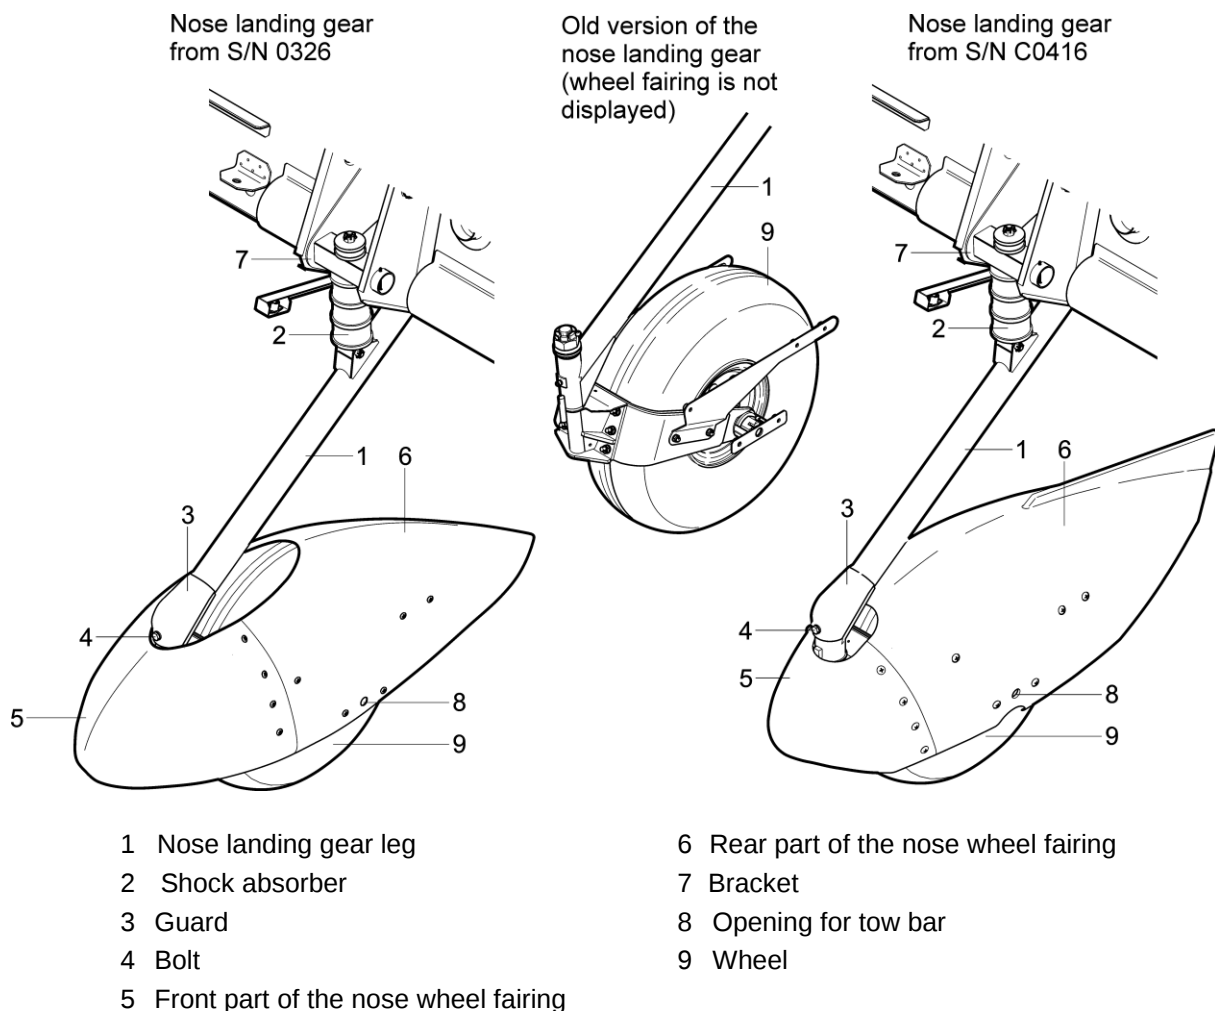
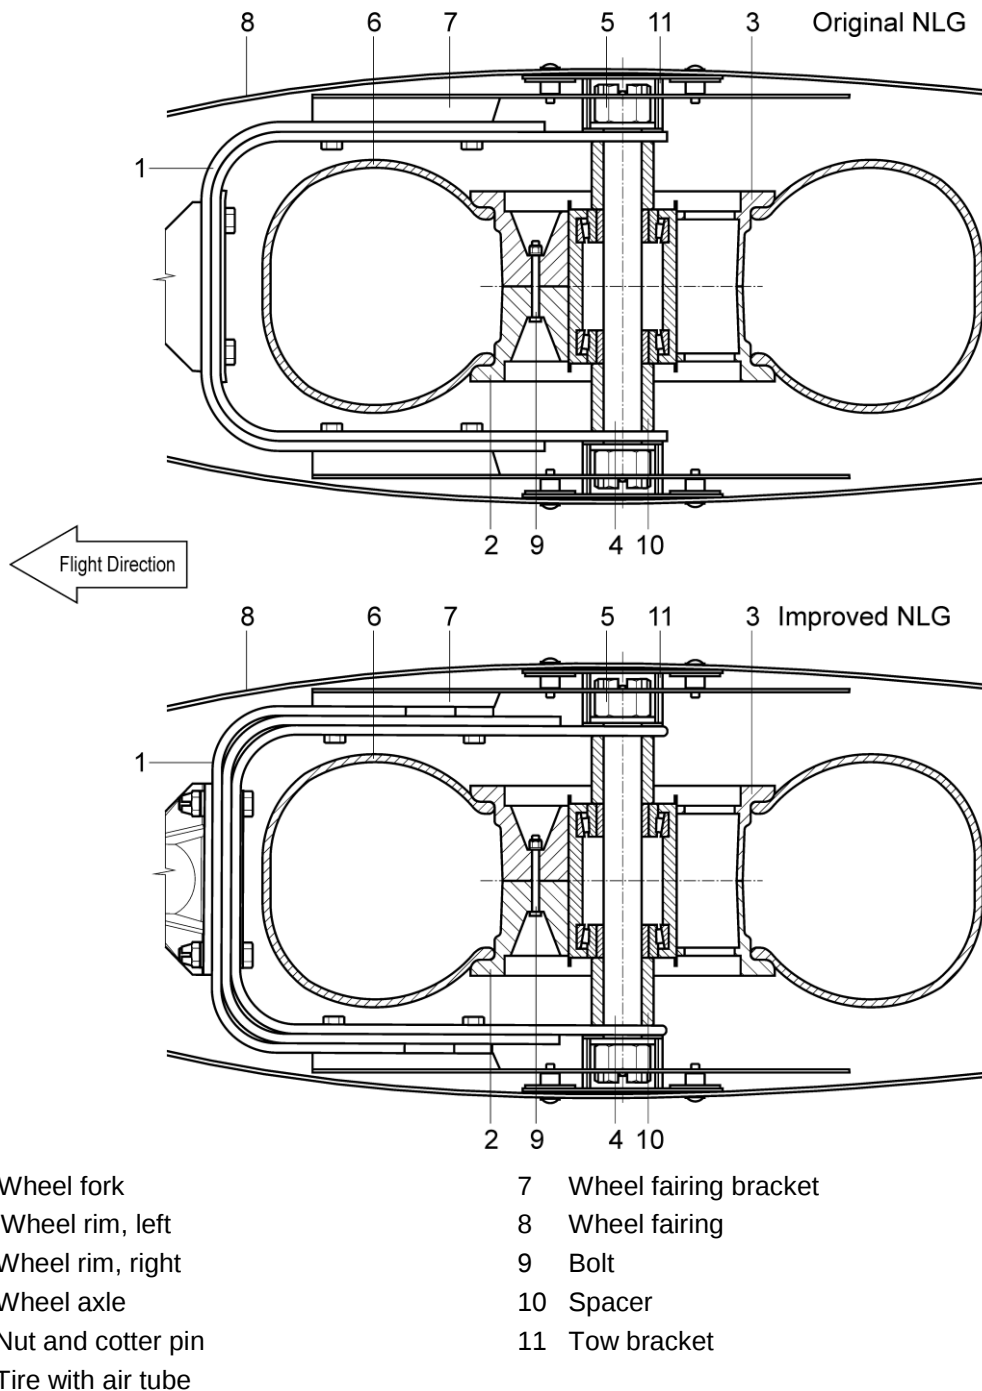

Fig. 8-3: Nose landing gear
Fig. 8-4: Nose landing gear wheel
The nose landing gear (NLG) of SportCruiser / PiperSport airplane is not steerable and consists of steel welded landing gear leg (1, Fig. 8-3), aluminum fork (1, Fig. 8-4), shock absorber (2, Fig. 8-3) and the wheel (9). The landing gear is attached to the brackets (7) installed on the bulkhead No. 1.
There were several old versions of the NLG used in the past, see Figure 8-3 and the point 8.5.8, Figure 8-20. The new improved and reinforced NLG No. SG0300N has further improved fatigue characteristics.
The nose landing gear wheel rim (2; 3, Fig. 8-4) is pressed of aluminum. Wheel rim is split in order to facilitate assembly and disassembly of tire. Both halves are connected by bolts (9). The wheel is equipped with tire and tube (6). Wheel rims are split in order to facilitate assembly and disassembly of tires